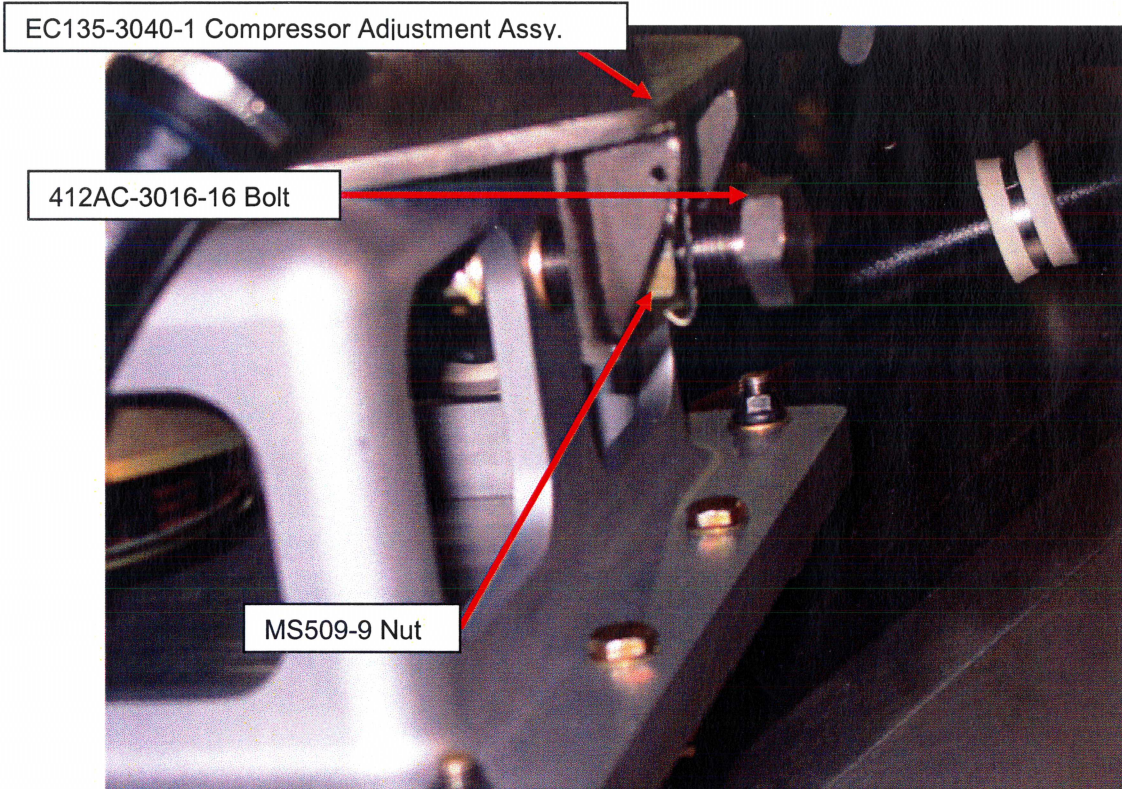

Figure 1-1
2. Cut the safety wire that secures the MS509-8 Jam Nut to the EC135-3020-1 Compressor Adjustment Assy., and loosen nut. (See figure 1-1)
4. Turn the 412AC-3016-16 Belt Tensioning Bolt counterclockwise to loosen the belt tension. This will allow for the removal of the compressor drive belt. (See figure 1-1)